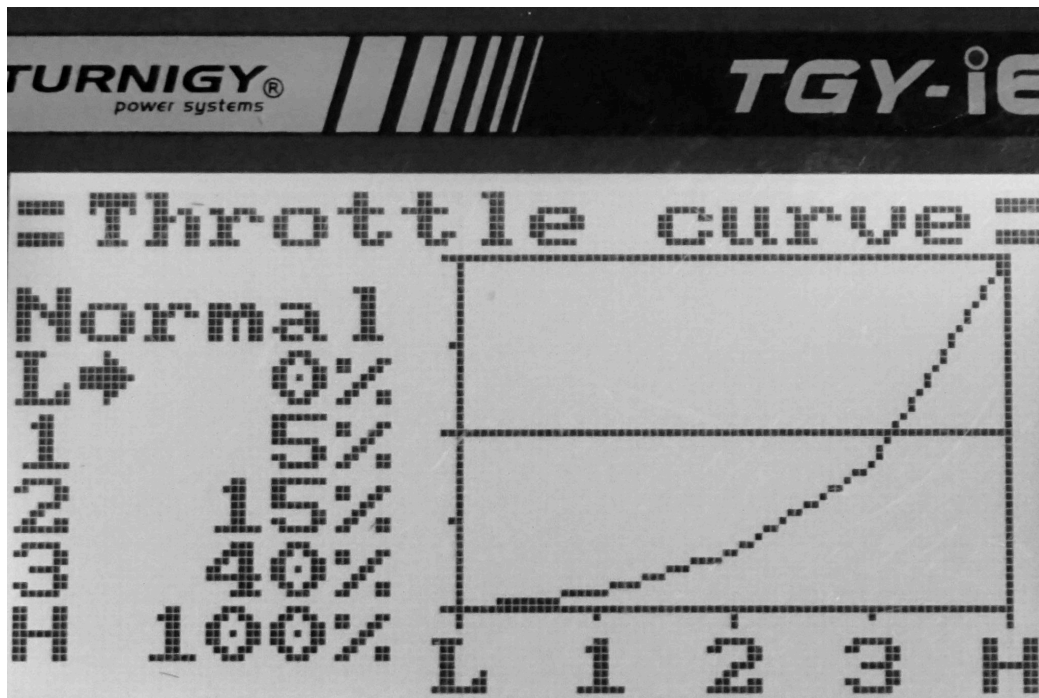

Fig. 17 (repeated)
- Set L to 5%, 1 to 10%, 2 to 20%, 3 to 45% and H to 100%. (Fig. 17) for Normal mode (Switch B, position 2)